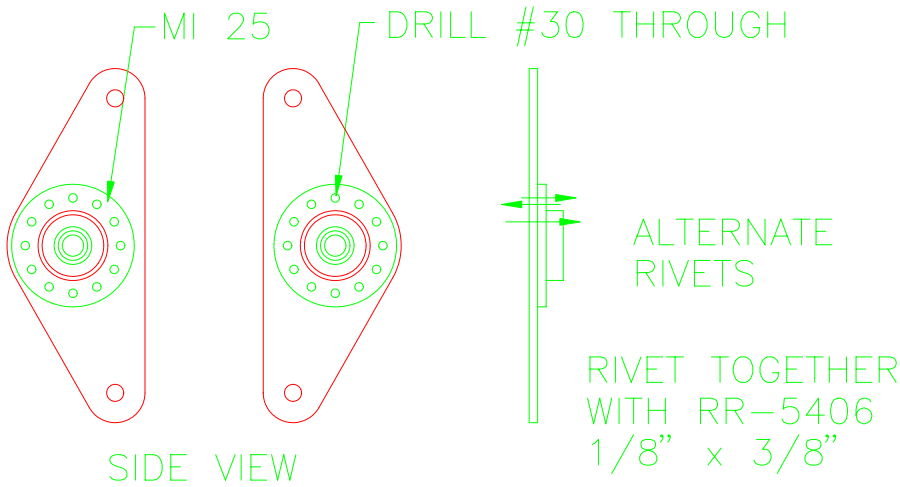

Figure 15.14.2
- 3) Prepare two FLAP-14 Bellcranks (1 left and 1 right). Figure 15.14.2.